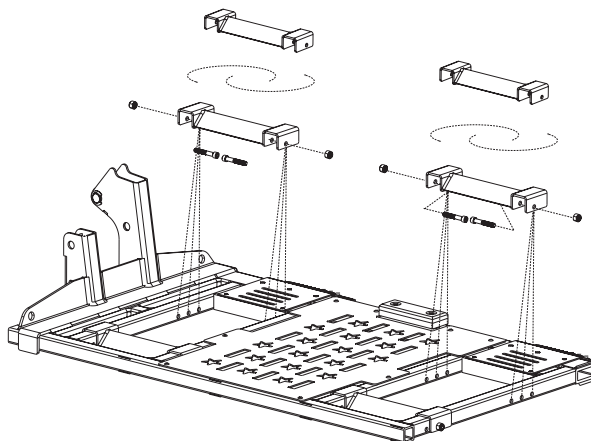

Figure 6-22
- Test platform with chair. Once satisfied, fasten platform in place with nyloc nut. See Figure 6-22.